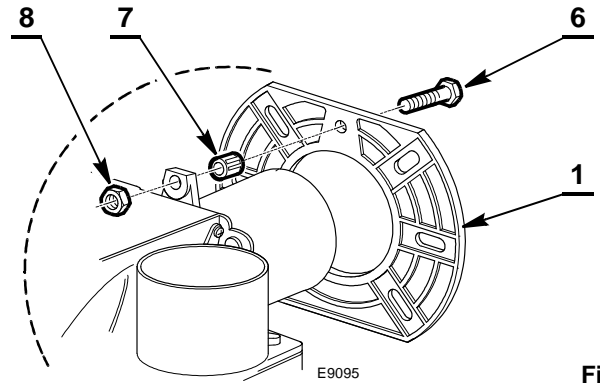

Fig. 6
- Fix the bolt (6) and nut (7) onto the flange (1) as in Fig. 6.
- Fix the securing nut (8)(Fig. 6) onto the bolt (6).